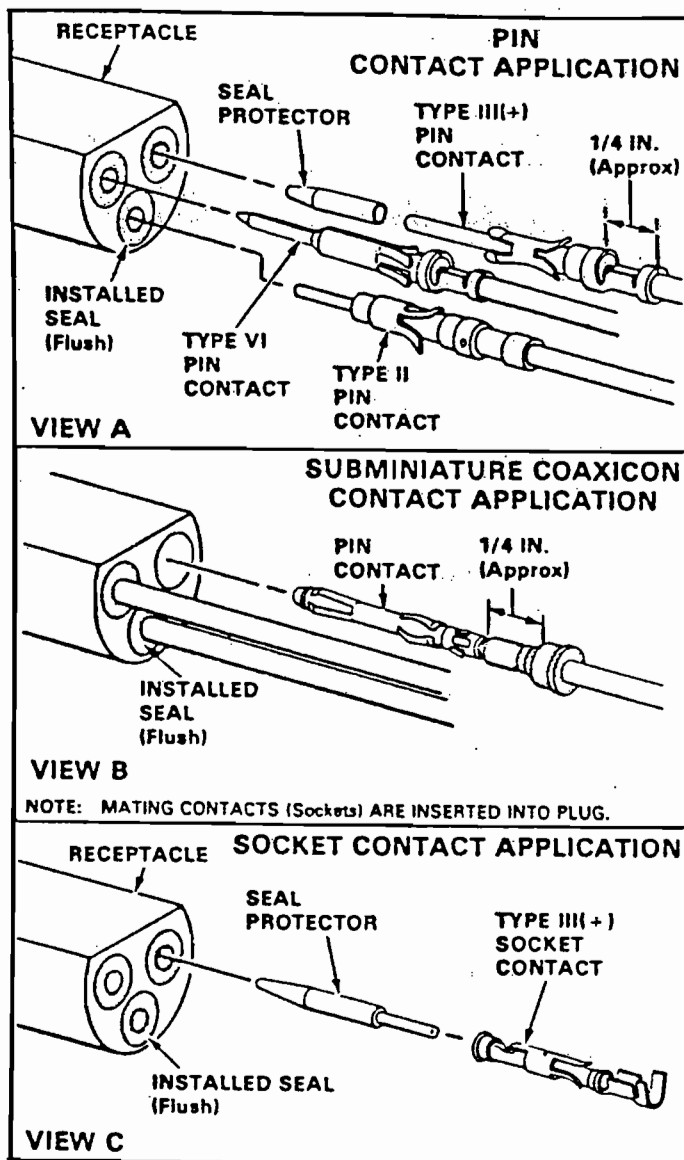

Fig. 3
1. When inserting a pin contact, install the AMP Seal Protector 208337-1 over the pin portion as shown in Figure 3, View A. When inserting a socket contact, use the AMP Seal Protector 208338-1 in the socket portion of the contact as shown in Figure 3, View C.
3. Align the contact with the back of the cavity and insert it *straight* into the cavity until bottomed. See Figure 3, Views A and C.
1. Position the seal so the collar is approximately 1/4 in. from end of contact as shown in Figure 3, View B.
4. Check seal — it should have seated flush with the back of the connector. If it is NOT, push it in with your finger or a round-tip tool. See Figure 3, View B.
b. For subminiature COAXICON contacts only, moisten the contact and the inside of seal with isopropyl alcohol, then carefully slide seal over contact until properly positioned. See Figure 3.
1. Slide the seal over the contact approximately 1/4 in. See Figure 3.